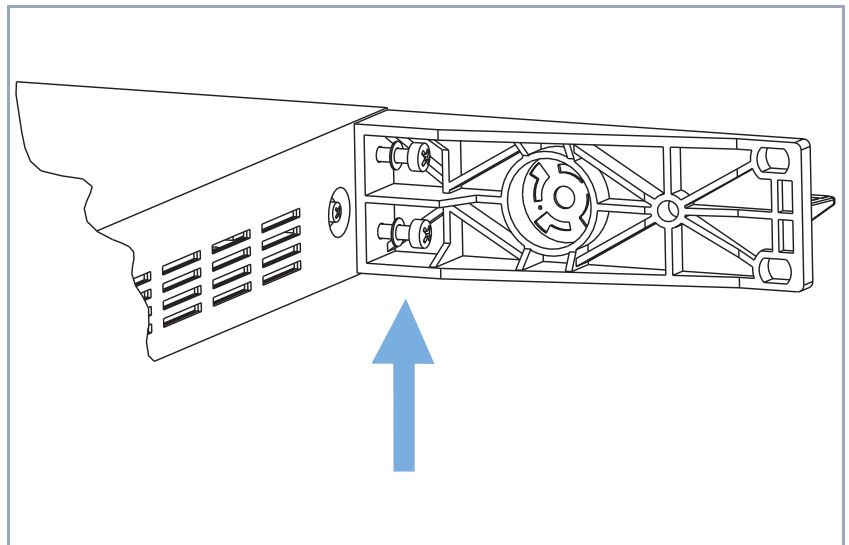

Figure 3-5: Screwing the bracket to the fixing holes
- Step 1** ➤ Using the two brackets and screws supplied with **X4000**, screw the brackets to the front fixing holes provided on the side of **X4000**, see Figure 3-5, page 43. Always use the screws supplied. Other screws may not withstand the mechanical loads or may damage the equipment.